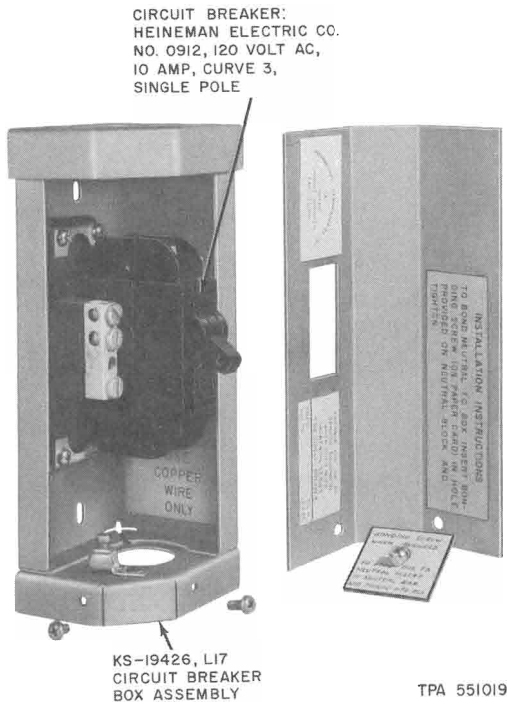

Fig. 7—Circuit Breaker and Box Assembly
- KS-19426, List 17 circuit breaker box (Fig. 7)